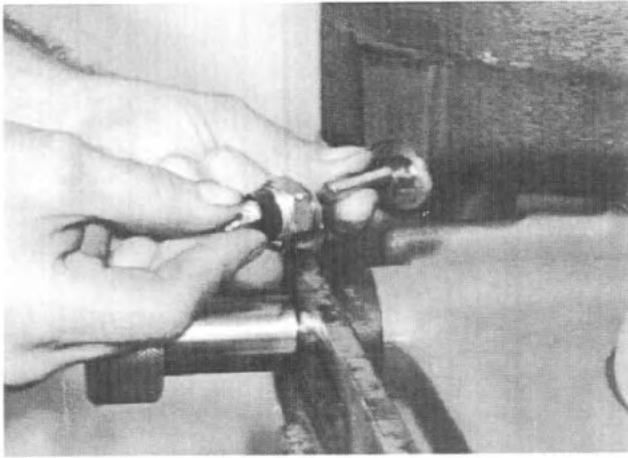

Fig. 10
12. Remove the front drive engagement indicator switch sender unit and copper washer. Using a pencil magnet, remove sensor pin from the indicator switch sender hole. *See Fig. 10.*